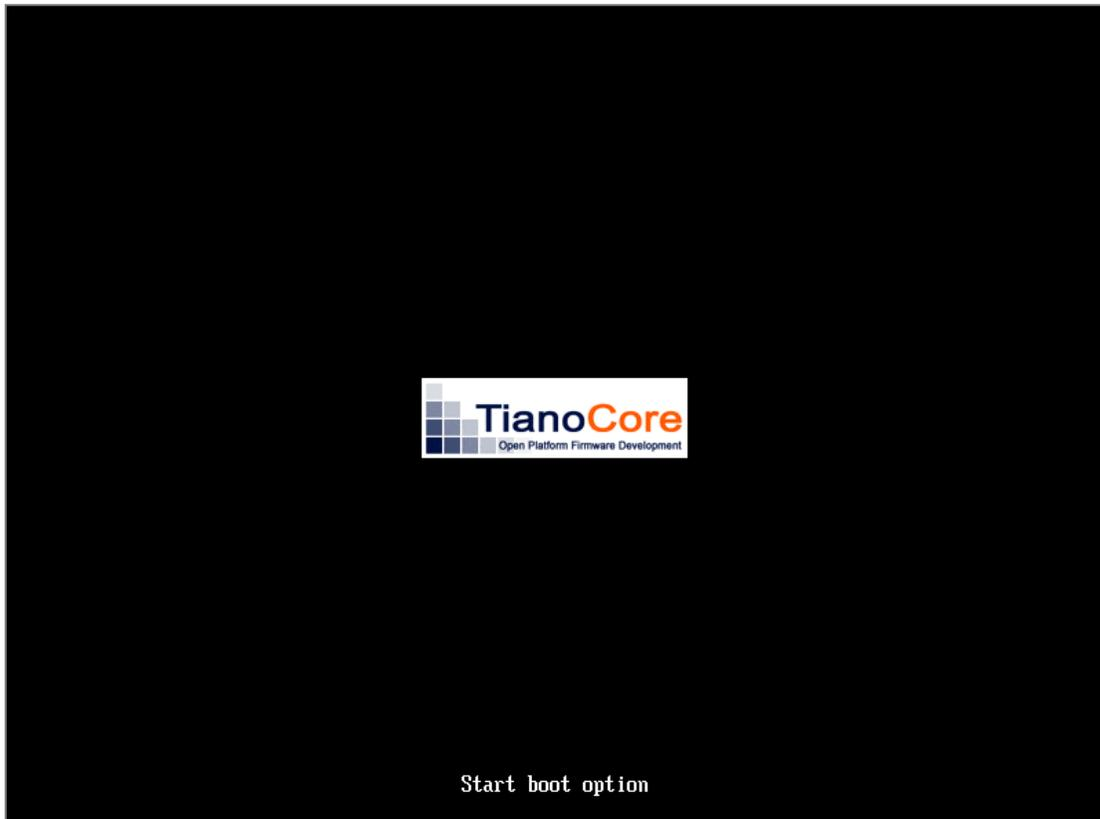

Figure 3-26. *Tianocore.org splash screen.*
8. Power up the target PC to verify that the new BIOS is installed correctly. The TianoCore* logo should be displayed (see Figure 3-26), and the system should automatically boot to the UEFI shell (see Figure 3-27).